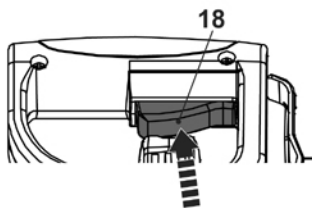

Fig. 9
- > Squeeze the on/off switch (18) to switch the product on (Fig. 9).
- > Release the on/off switch (18) to switch the product off.